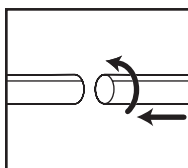

FIGURE 7
10. Attach the extension wands to the accessory end of the hose. Twist slightly to tighten the connection. **FIGURE 7.**
11. Attach one of the cleaning accessories (depending on your cleaning requirements) on the extension wands. Twist slightly to tighten the connection. **FIGURE 7.**